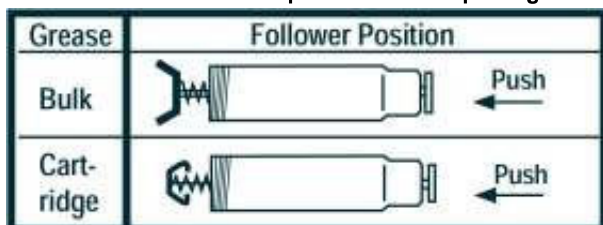

Fig 1
d) Body outlet (6) ball seat dirty or damaged	Remove spring (3) and ball (4). Disassemble, clean, and inspect all components. Replace as required.
e) Worn or damaged Piston O-ring.	Remove handle (20), pull out plunger (13) and replace O-ring (12).
2) Grease leaks past follower	a) Follower (15) damaged or perished.	Replace follower (15).
c) Follower in wrong position for bulk Grease.	If using bulk grease, Follower must be forward (Fig 1)
Remarque : Sélectionner la position de remplissage correcte (voir Fig. 1)